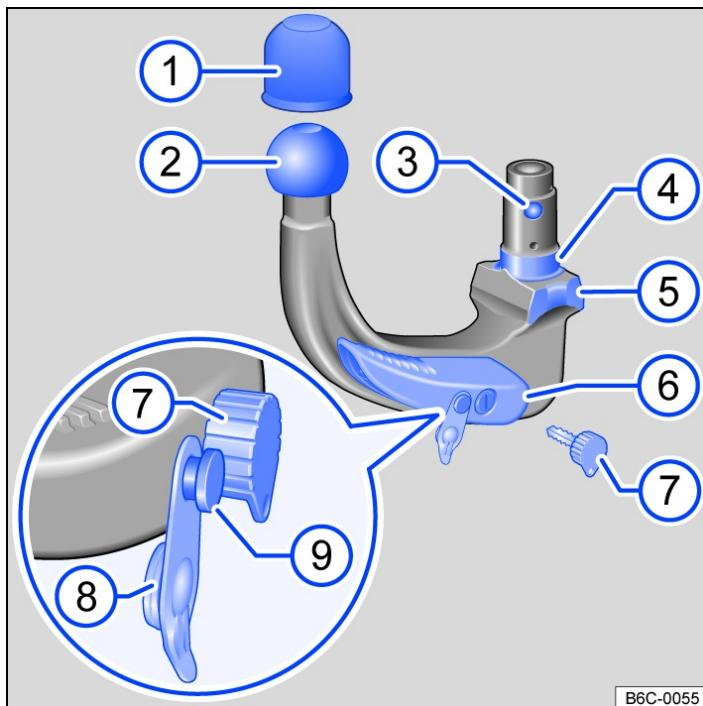

Fig. 1 Overview: removable ball coupling.
- If the smallest diameter on the ball coupling → Fig. 1 3 is smaller than 49 mm, do not use the towing bracket.
- Remove the lock cap → Fig. 1 8 from the lock in the locking lever and insert the key 7 into the lock.
- Turn the key → Fig. 1 7 anti-clockwise until the part of the key with the hole is at the top.
- Hold the neck of the ball coupling below the ball coupling → Fig. 1 2 with your hand.
- Press the release pin → Fig. 1 9 and at the same time press the locking lever 6 down as far as it will go → ▲. The ball coupling is pre-tensioned.
- Release the locking lever → Fig. 1 6 and stow the pre-tensioned ball coupling safely with the vehicle toolkit.